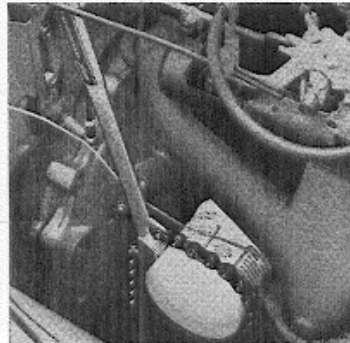

Fig. 9. Removing the oil cleaner (B 18).
1. Remove the old oil cleaner with the help of a tool as shown in Fig. 9.